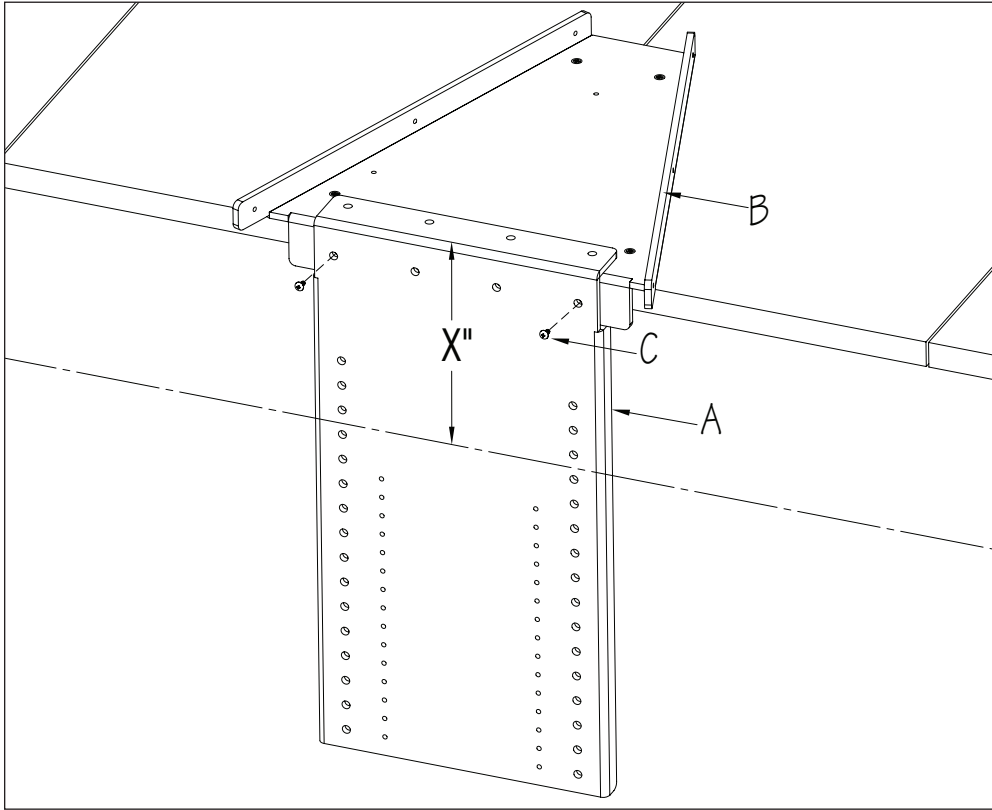

Fig. 16
- Loosely secure the Hanging Bracket (A) to the Deck Plate (B) with two of the 1/2" (13mm) Phillips Truss Head Screws (C). Measure from the top of the Hanger Bracket to the waterline to capture the freeboard measurement (X). The Hanger Bracket can then be removed (Fig. 16).